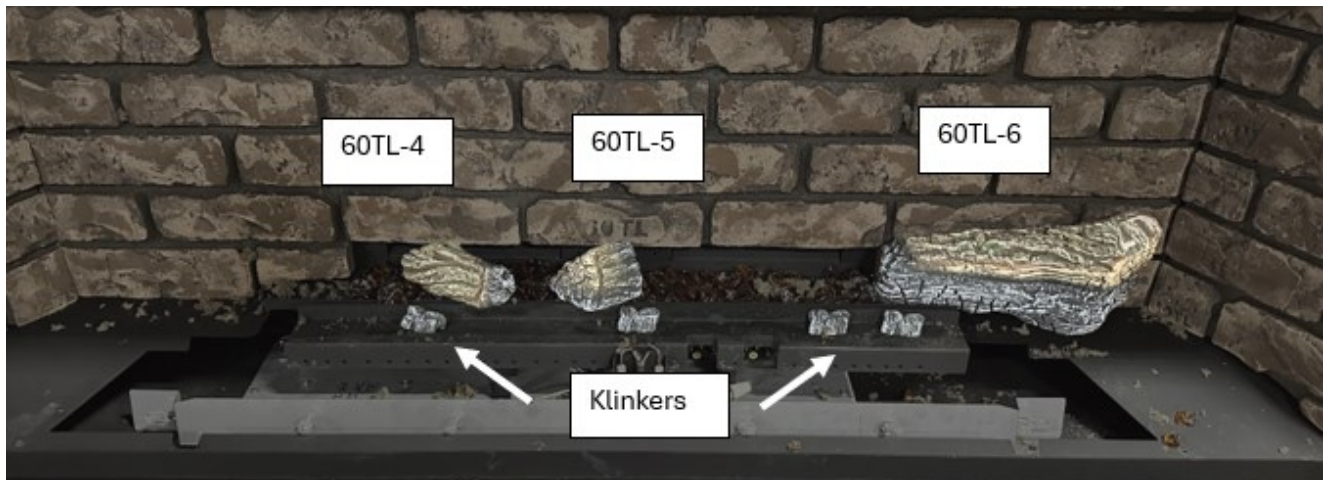

Figure 3 - Log Placement 1
2. Install crushed media over the rear ember bed media tray. Place log #60TL-4, #60TL-5, and #60TL-6 as shown in Figure 3. Log #60TL-6 is positioned by (2) correspond pins in the rear ember bed media tray. Log #60TL-4 and #60TL-5 will sit on crushed glass. Log #60TL-6 must lie flat on media tray. Failure to do so will negatively affect the flame. Install (4) small klinkers on the bottom burner pan. Do not block any burner porting.